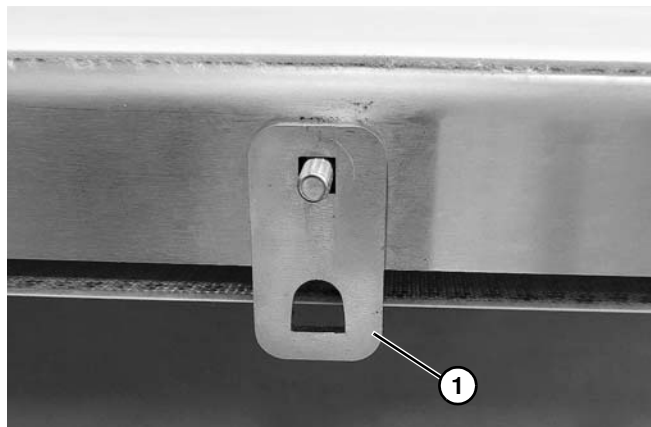

Figure 23
2. Install shaft bracket (**Figure 23, item 1**) onto carriage bolt.